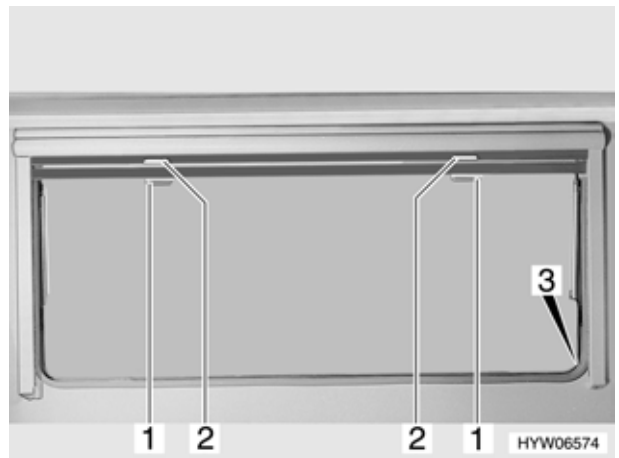

Fig. 48 Hinged window (variant 1)
- Pull blind at the handle (Fig. 48,2) downwards. If the blind is to be completely closed, it is suspended into the locking devices situated on both sides of the window frame (Fig. 48,3).
- If the blind is completely closed: press handle (Fig. 48,2) downwards and at the same time tilt it slightly forwards. The blind can be taken out of the locking devices situated on both sides of the window frame.
- Pull insect screen at the handle down (Fig. 48,1) and hang it into the locking devices situated on both sides of the window frame (Fig. 48,3).
- Press handle (Fig. 48,1) downwards and at the same time tilt it slightly forwards. The insect screen can be taken out of the locking devices situated on both sides of the window frame.